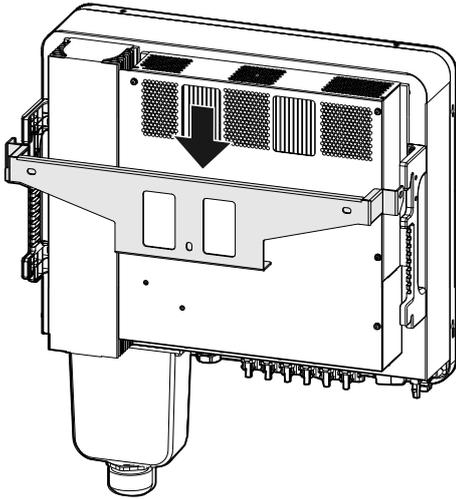

Figure3-13 Hang the inverter to installation holder
Step 5 Uplift the inverter and hang the inverter to the installation holder, as shown in Figure3-13.